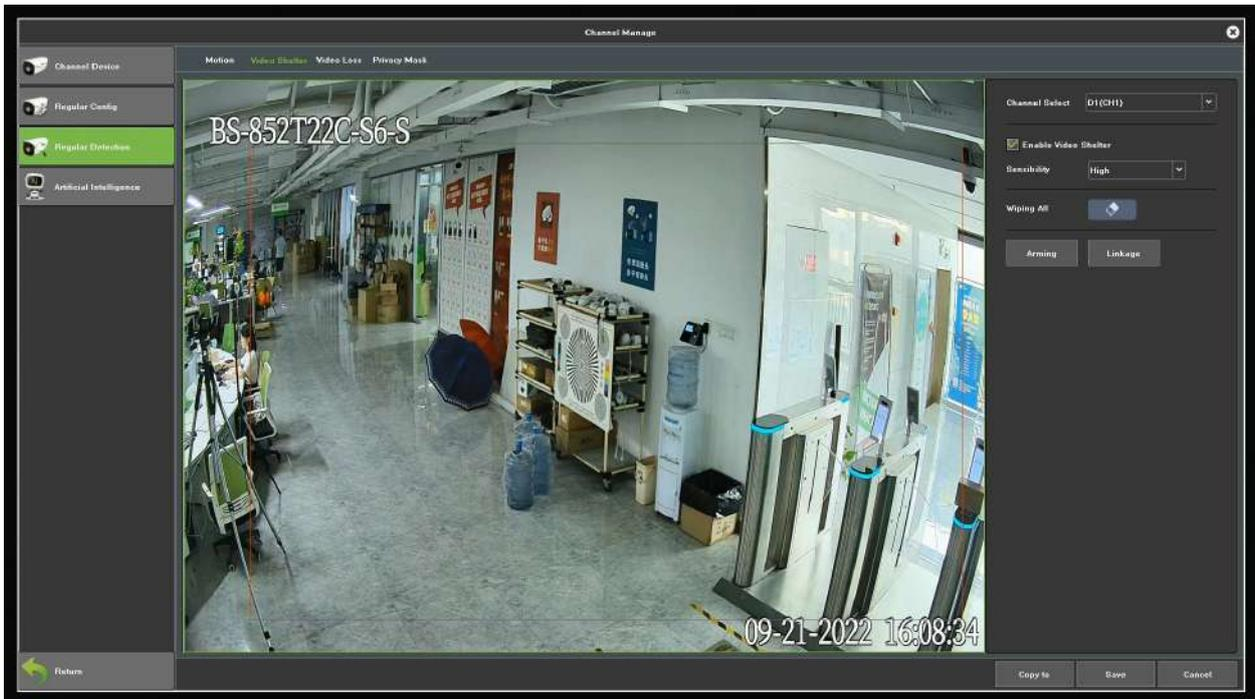

Figure 7.17 Video Shelter
1. Enter Video Mask Alarm interface of channel parameter and choose a channel you want to setup Video Mask Alarm, as shown in Figure 7.17.